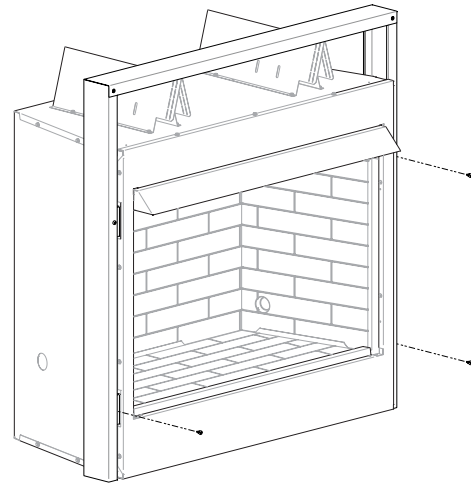

Figure 10
4. Slide the fireplace into position inside the metal studs. Secure the fireplace to the metal studs with four #10 pan-head screws as shown in Figure 10.